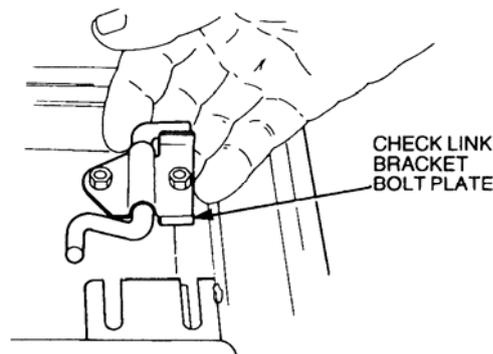

Figure 19 Check Link Bracket Removal
- bb.** Loosen the nuts securing the door check link to the door (refer Figure 19).
- ff. Install the door check link torsion bar and bracket assembly (refer Figure 19).